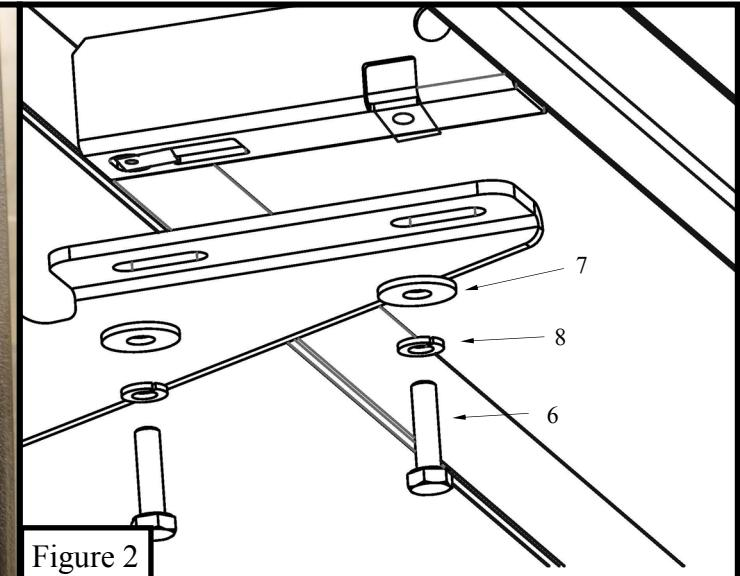
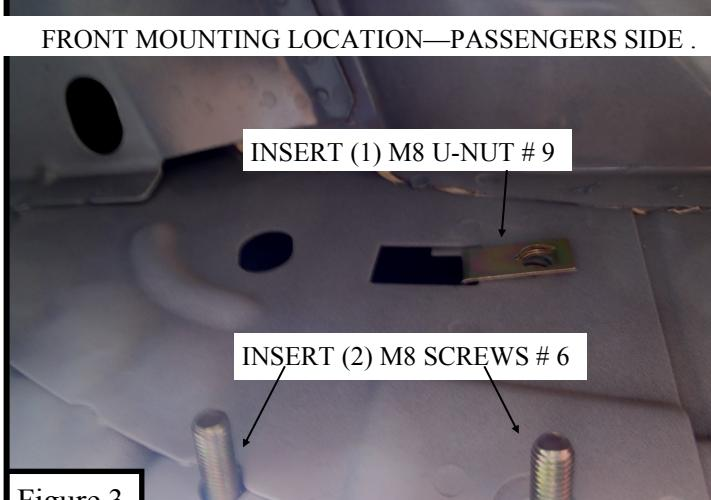
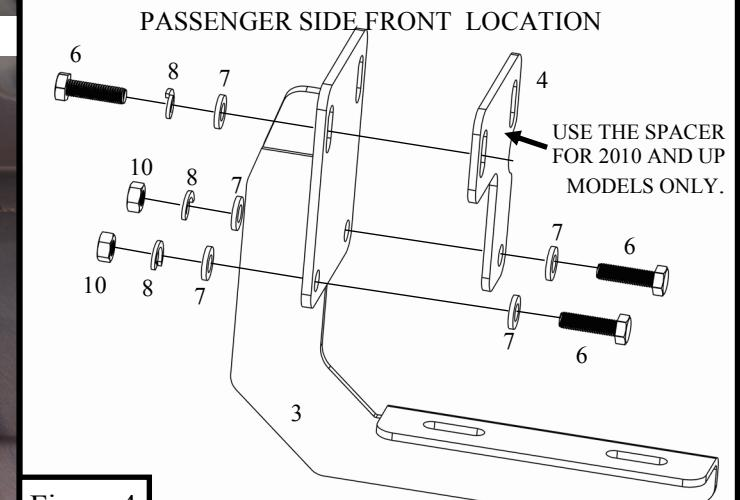

Figure 2
Figure 3
Figure 4
3. Starting at the passenger side, locate the front mounting point on the rocker panel. Insert (1x) M8 nut clip onto the small circular hole (Figure 3) and attach (1x) mounting bracket to the nut clip using (1x) M8 hex cap screws, (1x) M8 lock washer, and (1x) M8 flat washer. Attach the mounting bracket to the existing holes in the pinch weld using (2x) M8 hex cap screws, (4x) M8 flat washers, (2x) M8 lock washers, and (2x) M8 hex nuts (Figure 2). Note: for 2010- up model years place (1x) front mounting bracket spacer in between the rocker panel and the front mounting bracket before attaching (Figure 4). Do not fully tighten at this time.
5. Take the drivers side running board and attach it to the mounting cradles using (4x) M8 hex head bolts, (4x) M8 lock washers, and (4x) M8 flat washers (Figure 2). Do not fully tighten at this time.